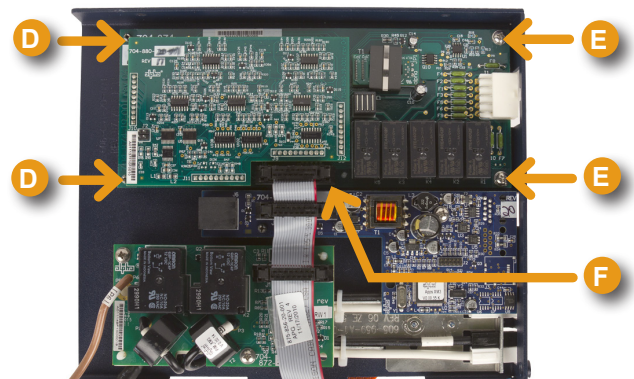

Fig. 2-17, SAG Card Standoffs, Screws and Ribbon Cable Locations
4. Install the SAG card by pressing it firmly onto the two standoffs (D) and fastening the two 6-32 screws (E) (see Fig. 2-17).
5. Connect the ribbon cable (F) and ensure the locking clips are closed.